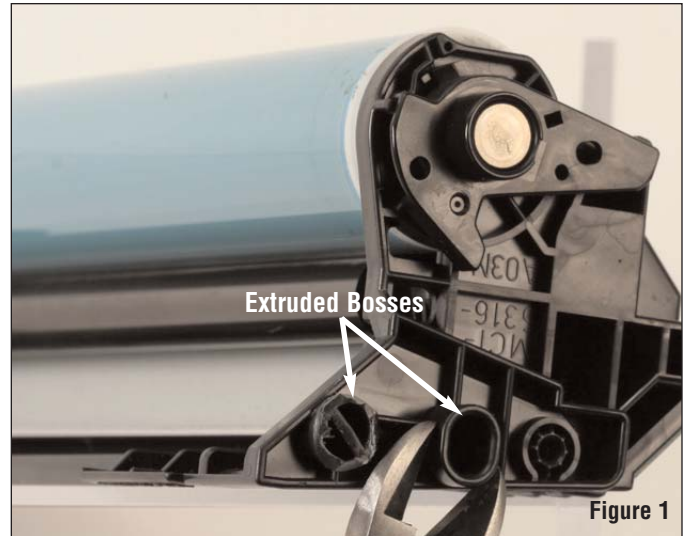

Figure 1
1. Using a side cutters, cut extruded bosses on both sides of waste bin (contact and non-contact) as shown in Figures 1 & 2. Trim flush using a utility knife.